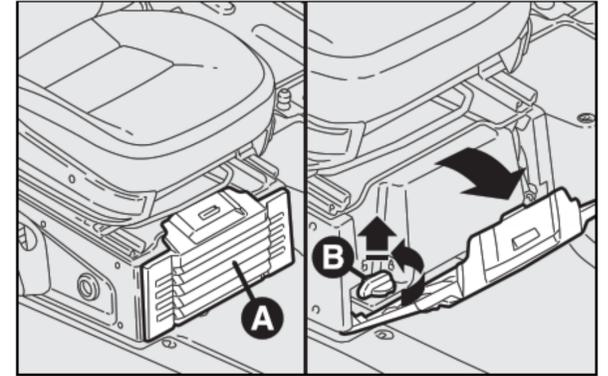

fig. 79
- Open lid **A** and remove it as shown in fig. 79: